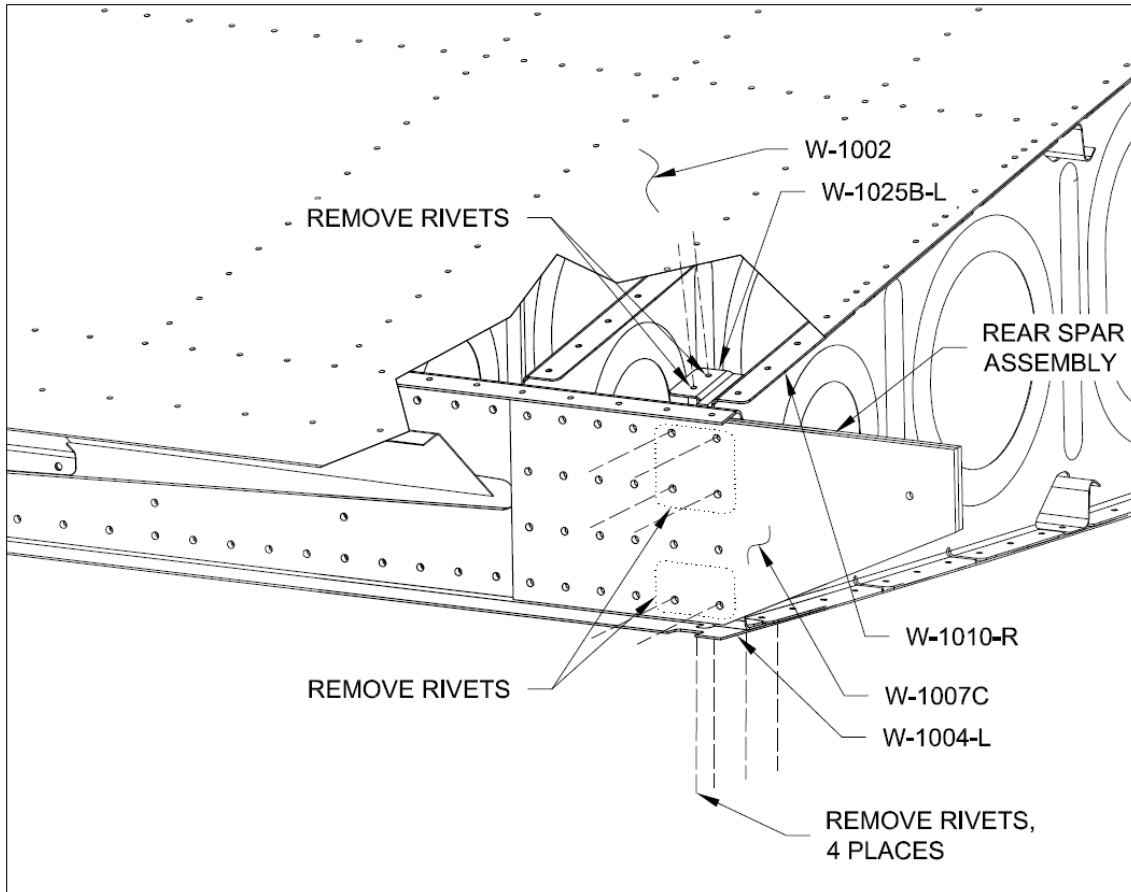

FIGURE 4: REMOVING REAR SPAR RIVETS
Step 15: Remove all rivets fastening the W-1010-R to the Rear Spar Assembly. See Figure 4.
Step 16: Remove all rivets fastening the W-1025B-L to the W-1002, W-1004-L, and Rear Spar Assembly. See Figure 4.